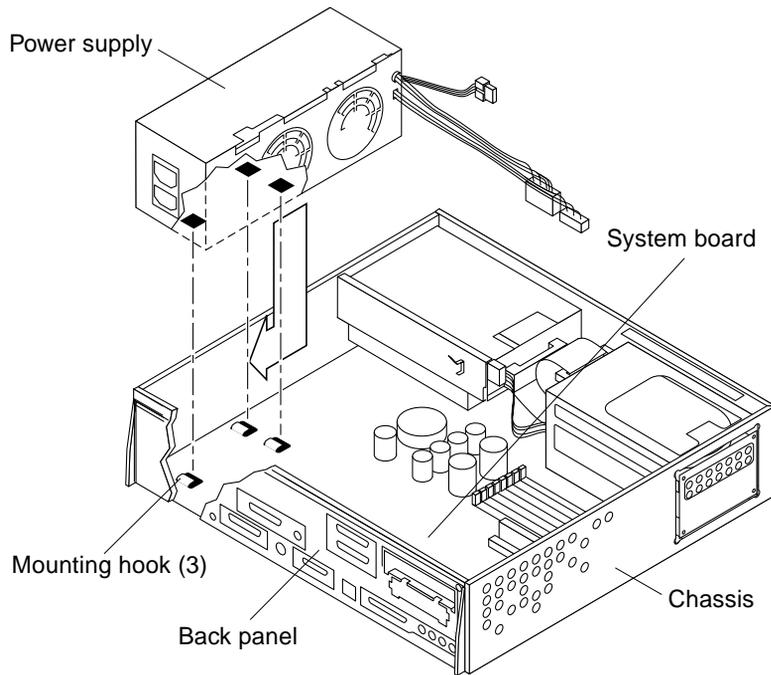

FIGURE 8-2 Replacing the Power Supply
2. **Push the power supply toward the chassis rear, engaging the mounting hooks (FIGURE 8-2).**